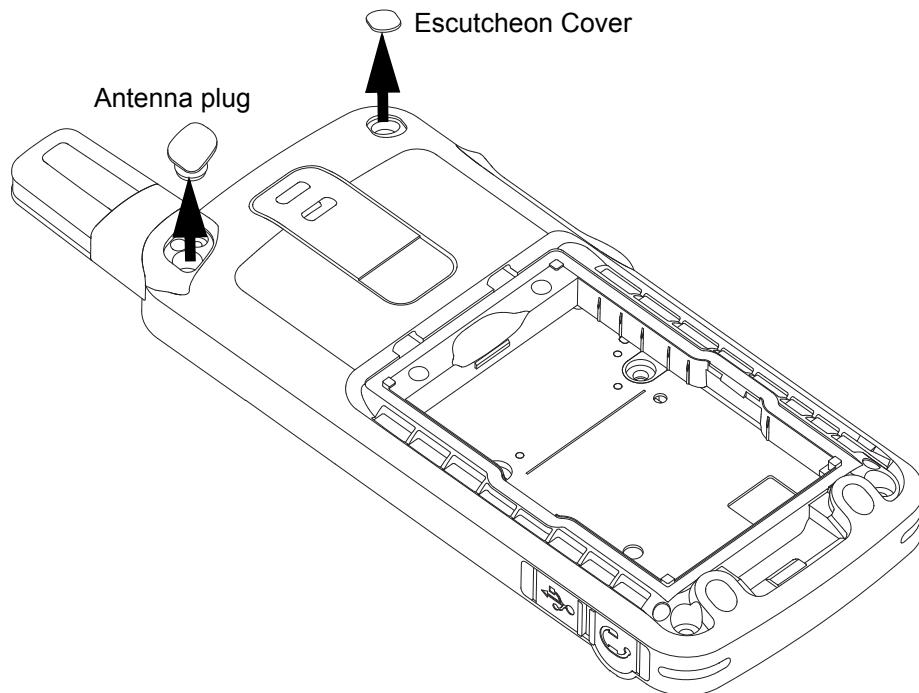

Figure 5-1. Antenna plug and escutcheon cover removal
2. Remove the antenna plug and the escutcheon cover from the back housing as shown in Figure 5-1.